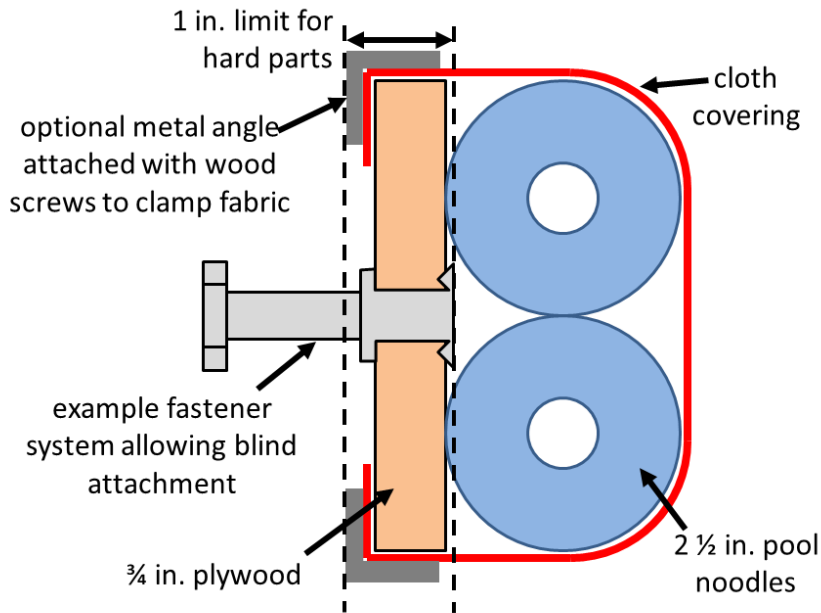

Figure 10-6 BUMPER Vertical Cross Section
- R31. (Figure 10-6, change is “optional aluminum metal angle attached with wood screws to clamp fabric” in callout)